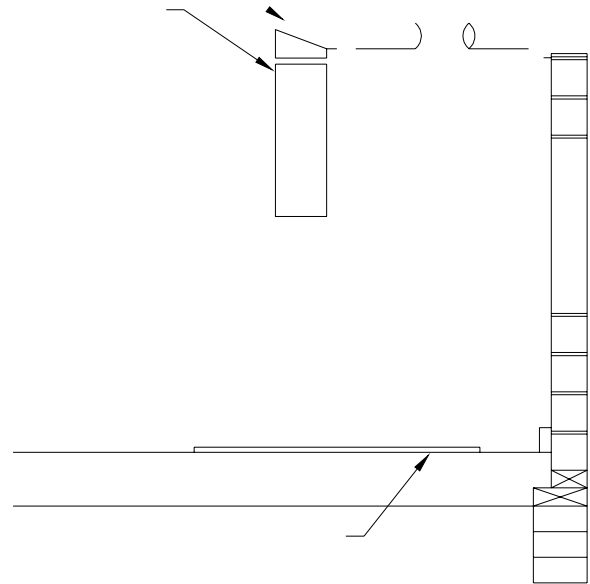

Fig. 6
5. If the fire burns well but sometimes smokes or burns slowly, it may be caused by the chimney top being lower than another part of the house or a nearby tree. The wind blowing over a house or tree, falls on top of the chimney like water over a dam, beating down the smoke. The top of the chimney should be at least 3 feet above the roof and be at least 2 feet higher than any point of the roof within 10 feet (Fig. 6).